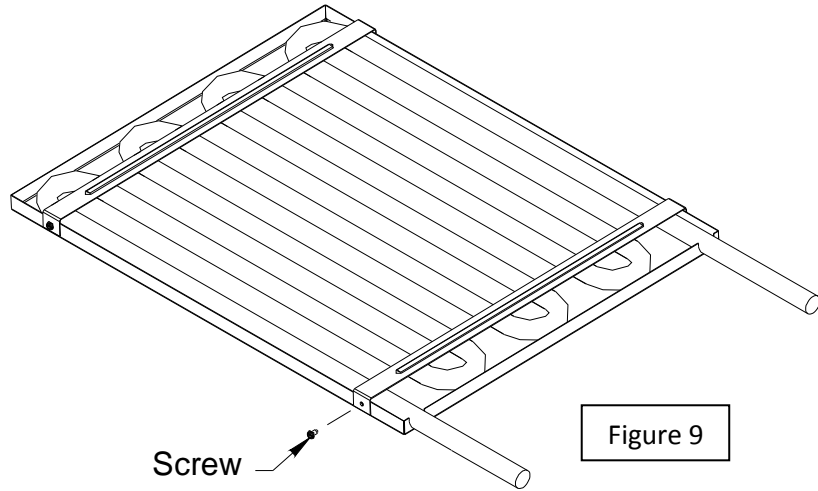
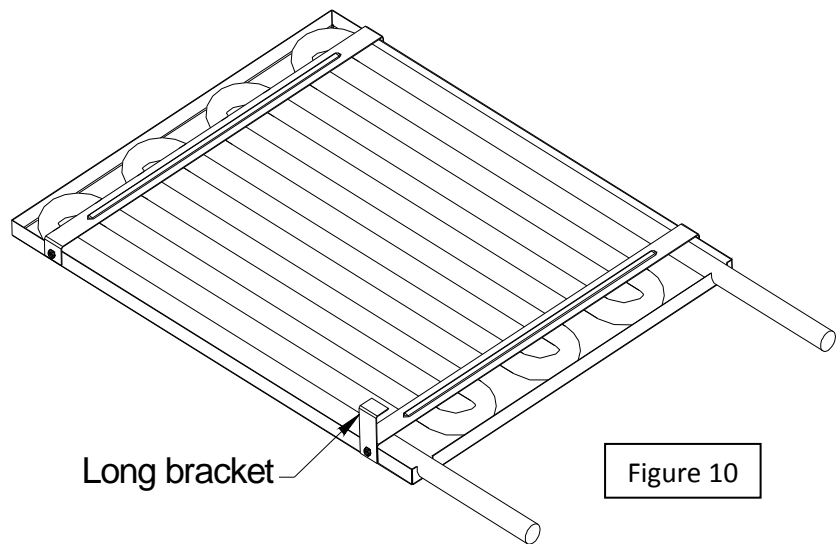

Figure 9
Figure 10
Step 1: Remove the screw located on the left of the assembly as shown on figure 9. Keep this screw to install the "Long" bracket supplied in the hardware kit as per figure 10.